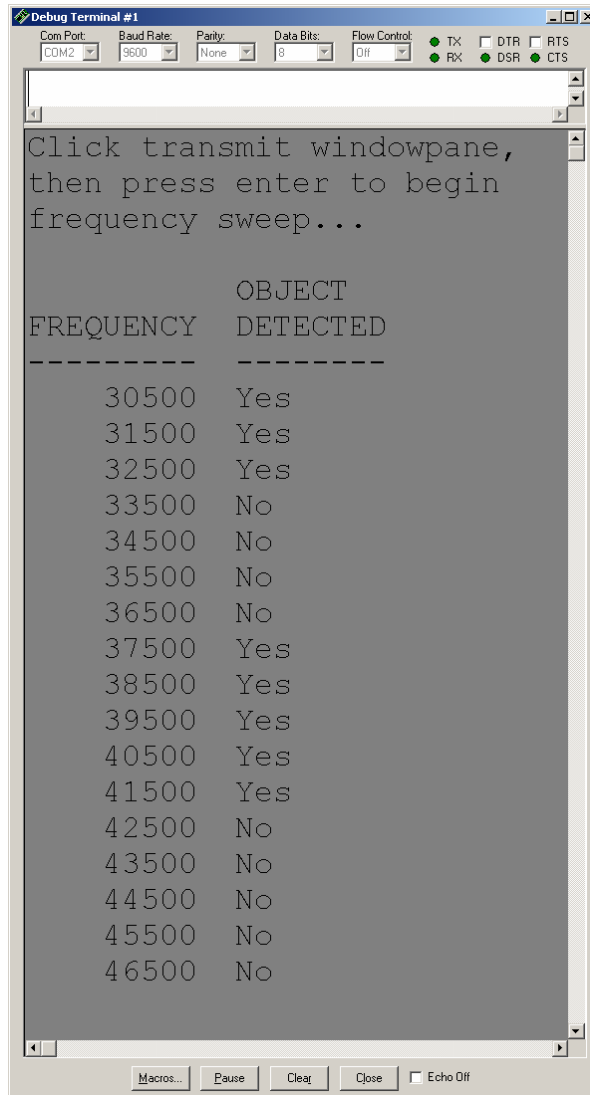

Figure G-1
- ✓ Click the upper of the two window panes shown in Figure G-1.
The BASIC Stamp has been programmed to make the Debug Terminal display a “Yes” if an object was detected and a “No” if an object was not detected. Figure G-1 shows that the left sensor’s region of good signal response is between 36500 and 42500.
- ✓ Modify the **FOR . . .NEXT** loop in Program Listing FrequencySweep.bs2 so that it steps in increments of 250 and includes the upper and lower limits of both detectors. Based on the data in the example shown in Figure G-1, the start, end and step values of the **FOR . . .NEXT** loop would be modified as follows: